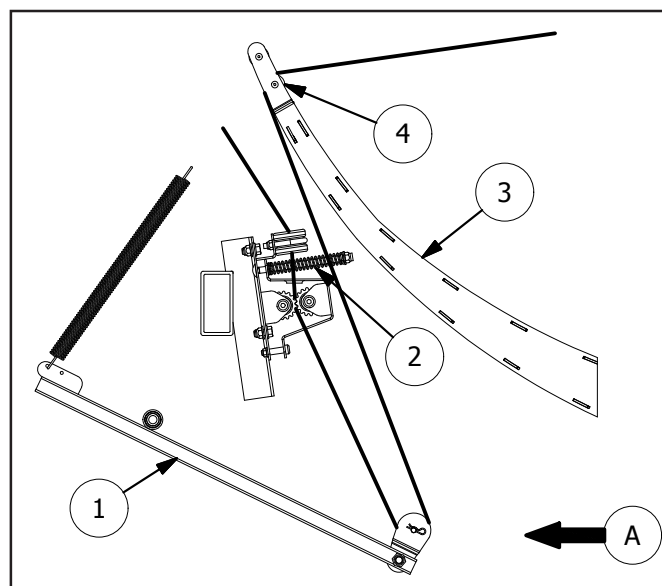

FIG. 31
FIG: 31: Each twine goes up from a lower slacker arm (1), between tension springs (2), and to a needle (3). Each twine goes over a lower roller (4), through the tip of a needle, and on up into the bale chamber. The large arrow (A) points to the front of the baler.